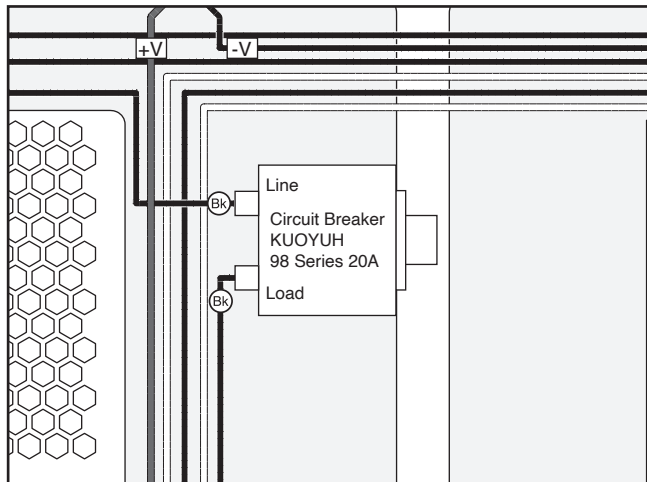

Figure 10. 25A circuit breaker.
8. Remove control panel, then disconnect wires from 20A circuit breaker (see **Figure 10**).